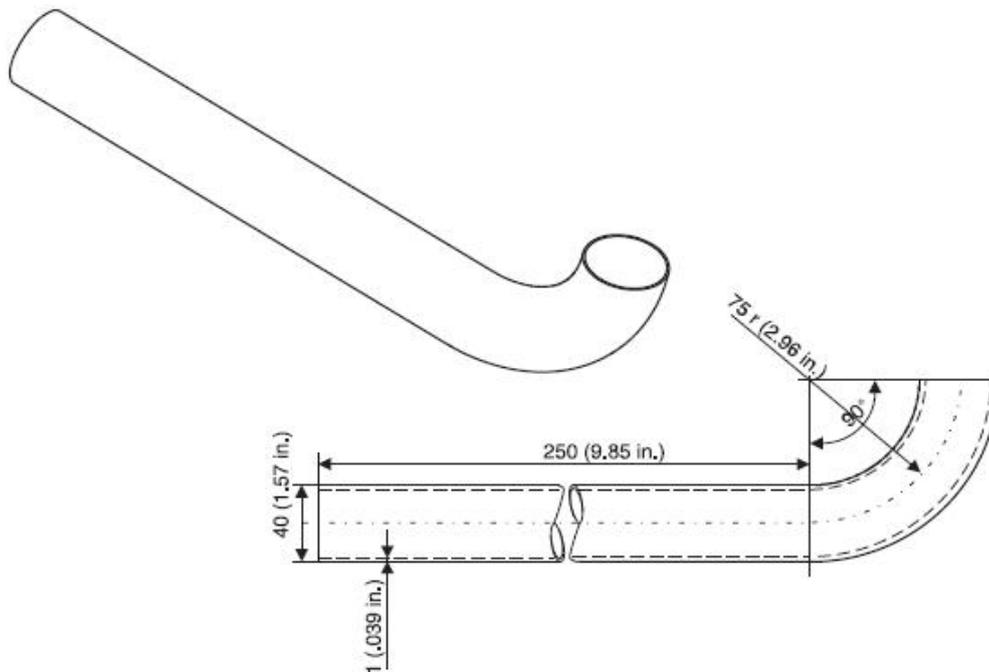

Fig.17
**Exhaust elbox(tailpipe)** (see Fig 17), Material/thickness: X5 CrNi 189(DIN 1.4301)( stainless steel); a=1 mm (0.04 in.).